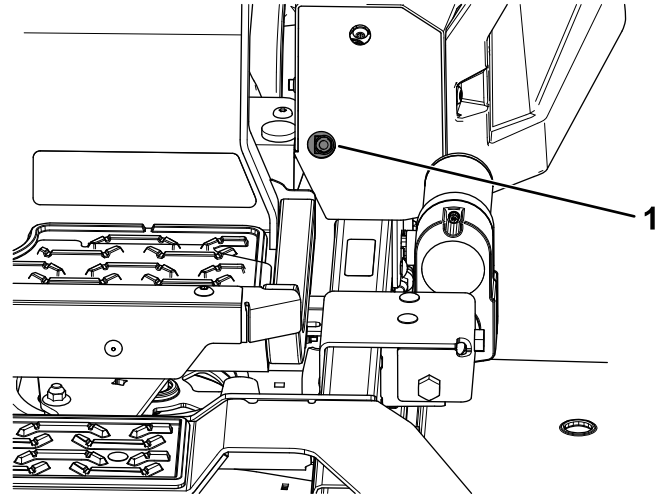
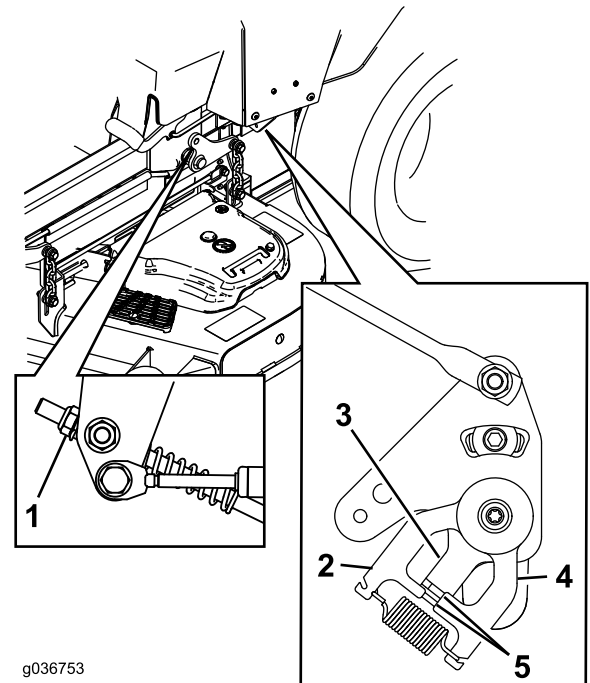

Figure 69
Figure 70
11. Adjust the pump-control-rod lengths by rotating the nut in the appropriate direction until the wheels slightly creep in reverse (Figure 69 and Figure 70).